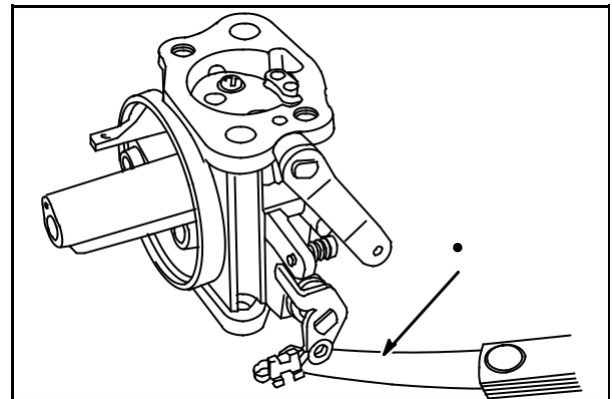

Fig. 41
Lay carburetor on flat surface. Use a feeler gauge (1) to check throttle and choke shaft clearance as shown in **Fig. 41.**